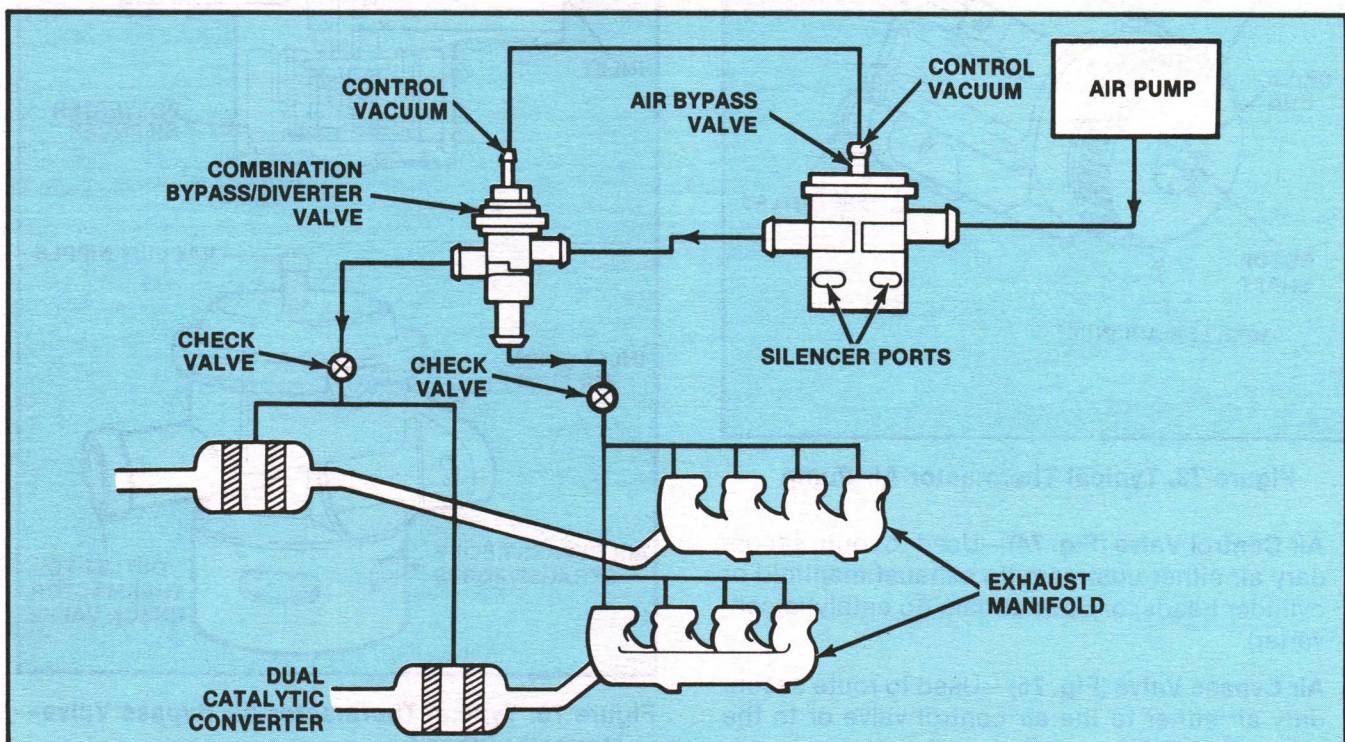

Figure 72. Typical Managed Thermactor Air System
The managed Thermactor air system (Fig. 72) is used to reduce the amount of hydrocarbons (HC) and carbon monoxide (CO) in the exhaust system. The Thermactor system supplies additional air needed to minimize a problem inherent with internal combustion engines: that of incomplete combustion due to the isolation of the combustion chamber and the exhaust manifold from atmospheric oxygen.